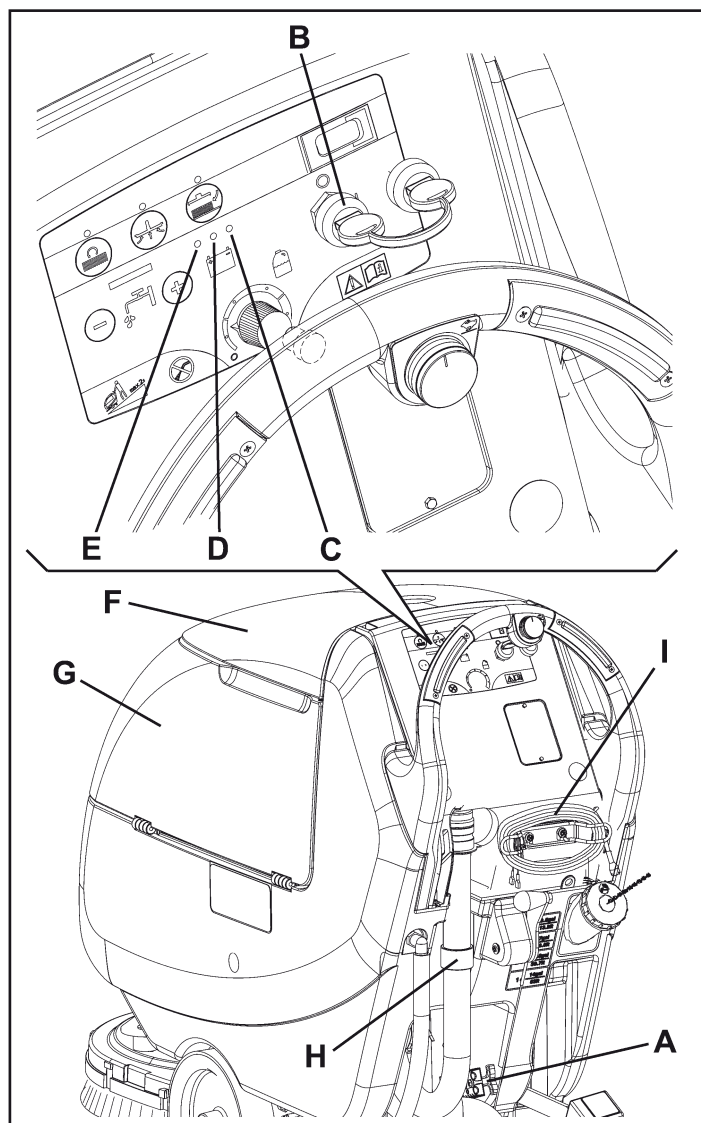

Figure 5
*Check the batteries for damage before installation. Disconnect the battery connector (A, Fig. 5) and the battery charger plug (I).*
1. Check that the batteries are connected to the machine with the connector (A, Fig. 5).
2. Insert the ignition key (B) and turn it to "I".